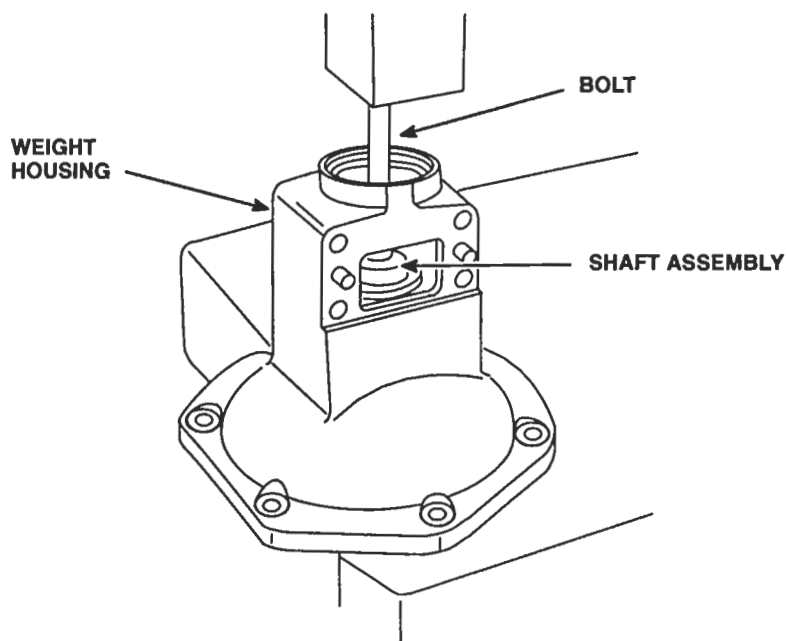

Figure 10. Removing Governor Weight and Shaft Assembly
- c. Thread a 5/16–24 x 3 inch bolt into the tapped end of the weight shaft. Support the weight housing on the bed of the press as shown in Figure 10. Then press the shaft from the bearing.